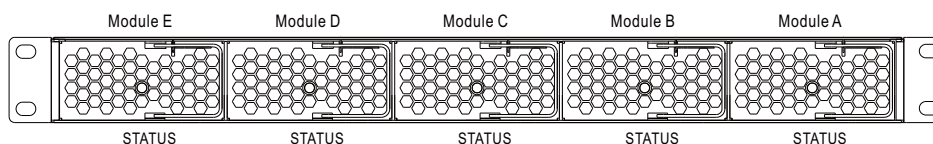

Figure 4-1 RHP System assembly diagram
- ☉ Insert 1 ~ 5 pieces of RCP/RCB-1600 (with the same output voltage and current) into the RHP-1U (refer to Figure4-1)